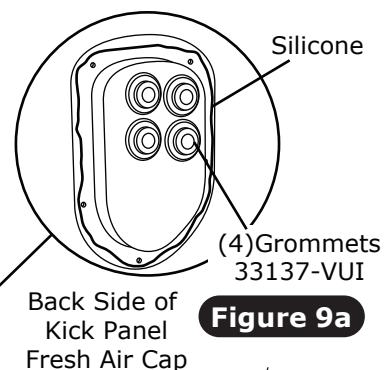

Figure 9a
1. Install (4) grommets in kick panel fresh air cap (See Figure 9a, below).